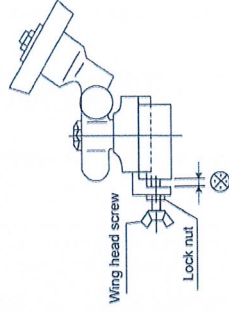

Fig. 8
3. If the grinding wheel is unable to reach the band knife after pulling the grinder lever, then loosen the nut, and turn the wing screw to make the mat move forward a little way (Fig.8).